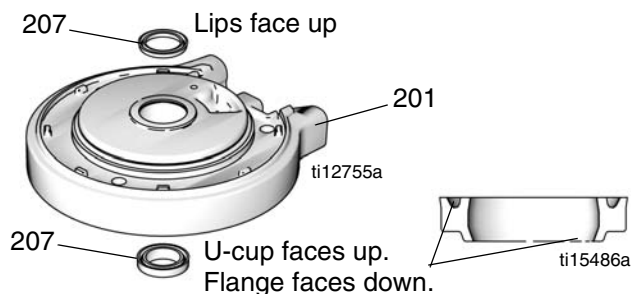
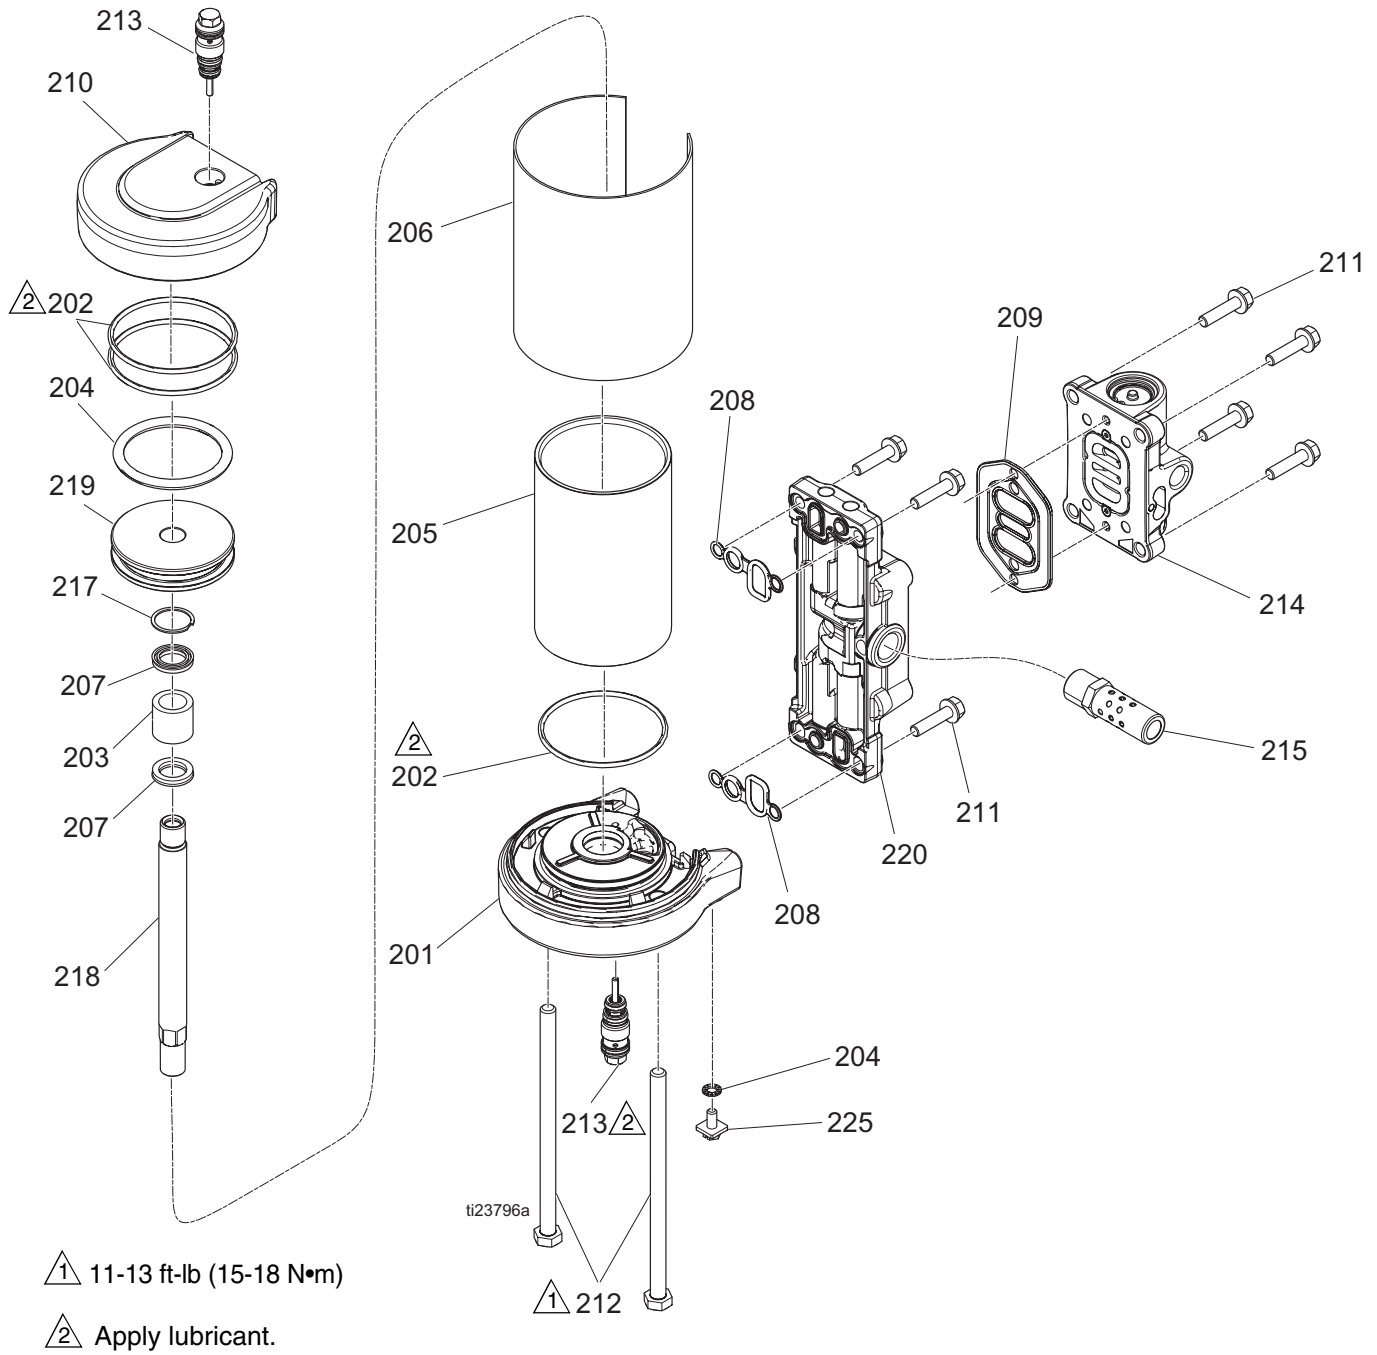

FIG. 9: Air Motor U-cup Installation
FIG. 13: Air Motor Parts
2. See FIG. 13, page 20. Use a 10 mm socket wrench to remove four screws (211). Remove the air valve (214) and gasket (209).
4. Remove four screws (211) and remove the manifold (220) and two gaskets (208).
5. Use a 10 mm socket wrench to remove the pilot valves (213) from the top and bottom cover.
6. Remove the 13 mm tie bolts (B).
7. Remove the top cover. Remove the o-ring (202).
8. Remove the shield (206) from around the cylinder (205). Remove the cylinder.
9. Slide the piston assembly (219) straight up off the bottom cover.
10. Remove o-ring (204) from around the piston.
11. Remove u-cup seals (207) and o-ring (217) from the bottom cover.
1. See FIG. 13, page 20. Lubricate and install the o-ring (202) on the top cover (210).
2. Lubricate the inside of the cylinder (205). Lower the cylinder onto the top cover (210).
3. Lubricate and install the o-ring (204) around the piston (219).
4. Slide the piston assembly (219) down into the cylinder (205). Be sure the o-ring (202) stays in place.
5. Install the shield (206) around the cylinder (205) and in the groove on the top cover (210).
6. See FIG. 9. Lubricate and install the new u-cup seal with flange (207) in the bottom of the bearing in the bottom cover (201). The u-cup must face up and the flange must face down. Lubricate and install the new u-cup seal (207) in the top of the bearing. The lips must face up.